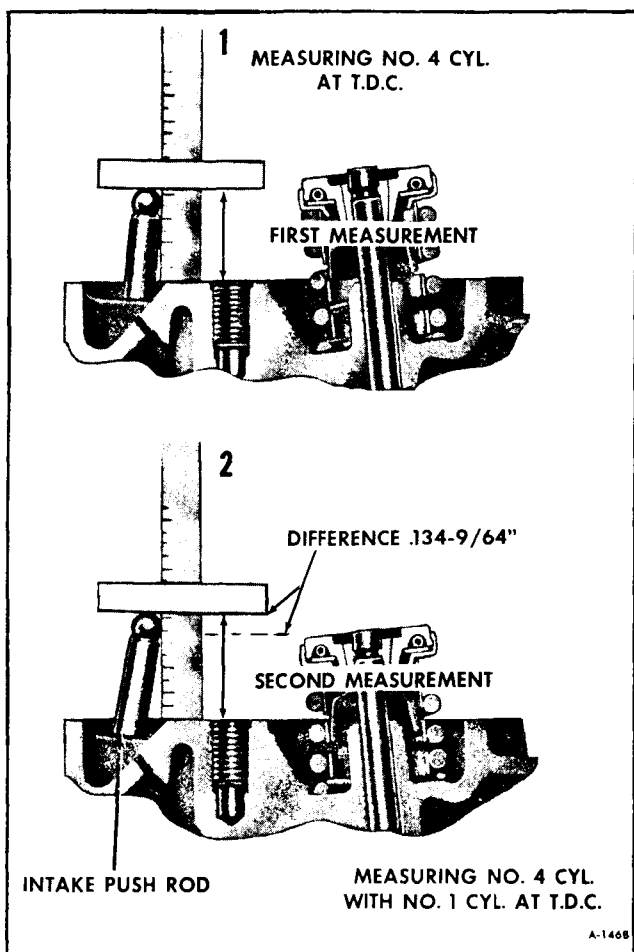

Figure 56—Checking Valve Timing
4. Measure from pivot boss on head surface to top of No. 4 intake push-rod. Record measurement. See Figure 56.
6. Again measure from pivot boss surface to top of No. 4 cylinder intake push-rod. See Figure 56.
7. Measurement should increase over the first measurement as shown in Figure 56.